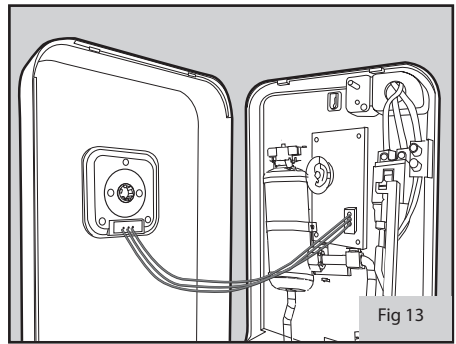

Fig 13
- Connect the Front PCB of LED Power light Plug (Fig 13) from cover to the PCB control.